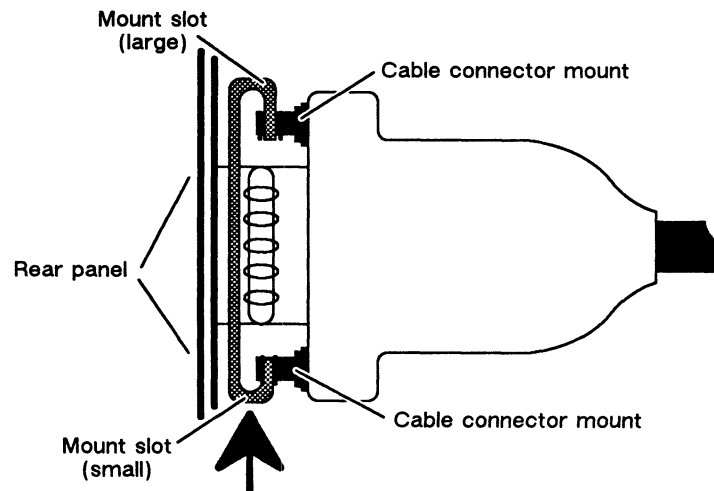

Figure 3-5 Connecting a LAN Drop Cable to a Rear Panel Connector
3. Push the edge of the slide clip into position so the small mount slot surrounds its cable connector mount. Figure 3-5 illustrates how to secure a slide clip connection.